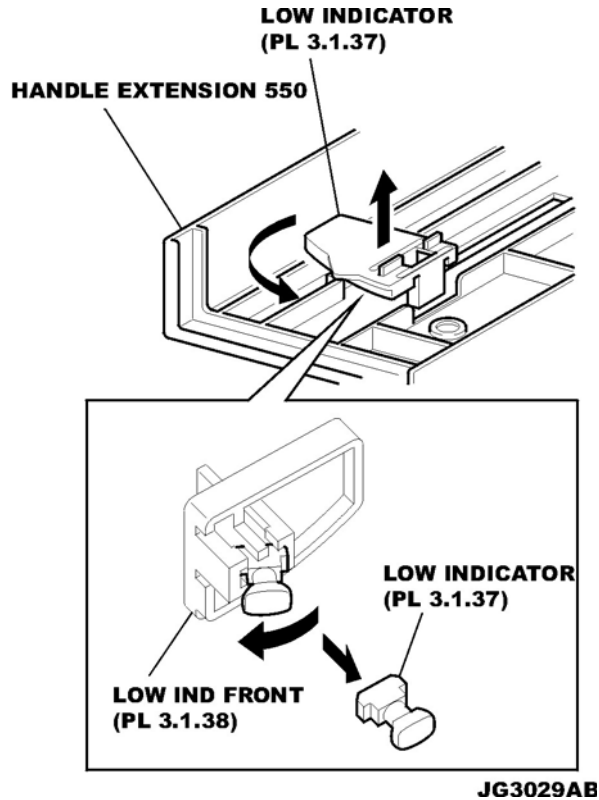

Figure 1. Low Indicator
- 3) Turn the LOW INDICATOR (PL 3.1) by 90 degrees, and remove it together with the LOW IND FRONT from the HANDLE EXTENSION 550 (Figure 1).
- 2) Turn the LOW INDICATOR by 90 degrees in the opposite direction of the arrow, and install it together with the LOW IND FRONT to the HANDLE EXTENSION 550 (Figure 1).